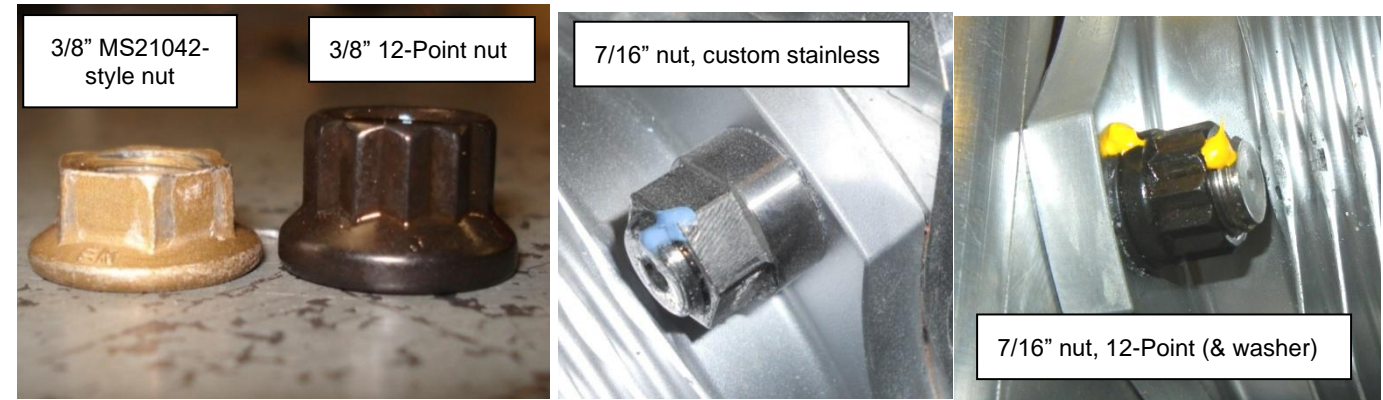

Figure 146 – 12-Point Nuts, 7/16” Hardware (on right)
- Later engines (See Section 12 for serial number ranges) use 7/16” hardware on the engine through bolts and studs. On these parts a custom-made nut (shown in Figure 146) is used. At overhaul these are to be removed and 7/16” 12-point nuts & washers fitted (Figure 146 right).